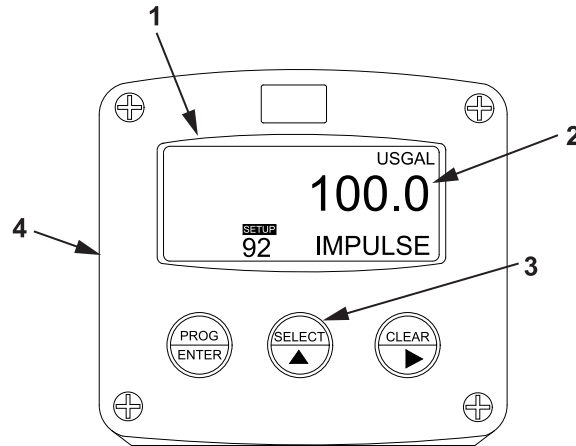

Figure 42. 100.0 Display.
- d. Verify that 100.0 (Figure 42, Item 2) appears on the display screen (Figure 42, Item 1). If 100.0 (Figure 42, Item 1) does not appear, perform the procedure to program tank volume meter monitor settings and select 100.0 (Figure 42, Item 2).
- e. Press the SELECT key (Figure 42, Item 3) on the tank volume meter monitor (Figure 42, Item 4).